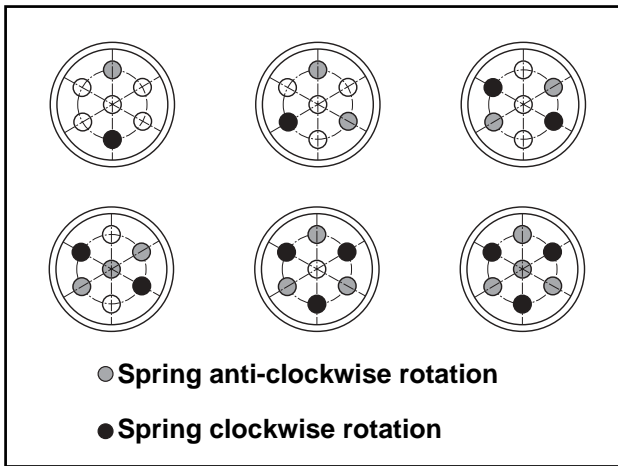

Fig. 9 Arrangement of springs on spring reset actuators
- slacken the screws (15) crosswise and in pairs uniformly and in small steps in order to relieve the springs slowly, then change the spring assembly as shown in Fig. 9 and retighten the cover (4) in reverse order.